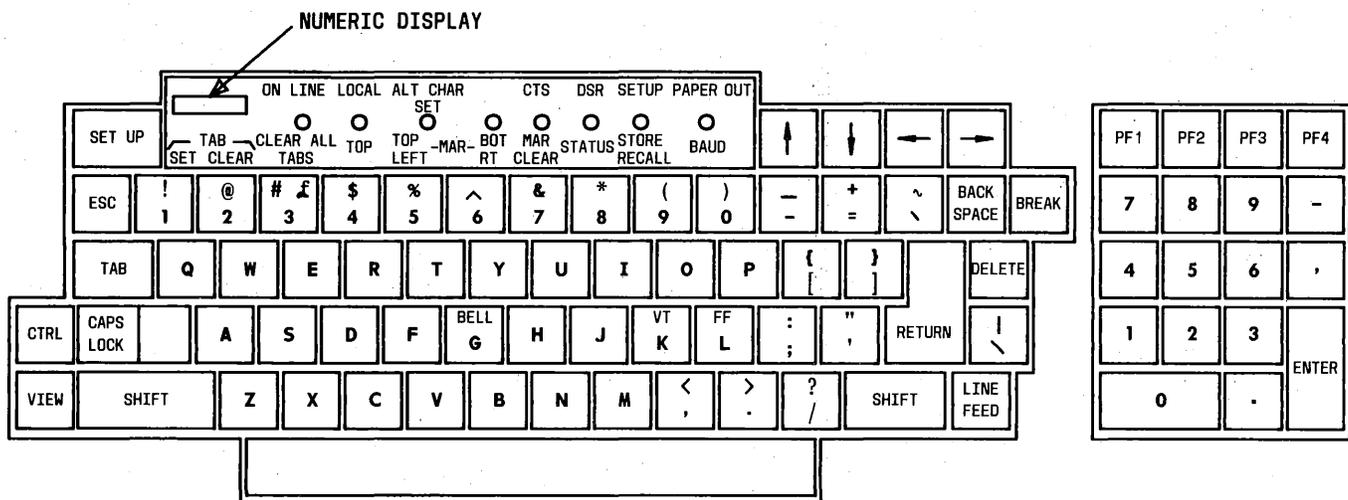

Fig. 29—LA120 DECwriter Terminal Controls and Indicators
11.01 Controls and indicators for operation of the DECwriter terminal are shown in Fig. 29 and listed in Tables E and F.